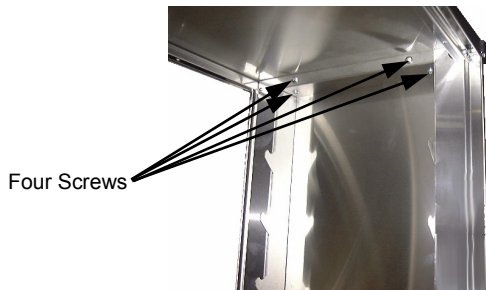

Figure 5.3.2
- 2) Remove four screws at inside top of unit. (Refer figure 5.3.2)